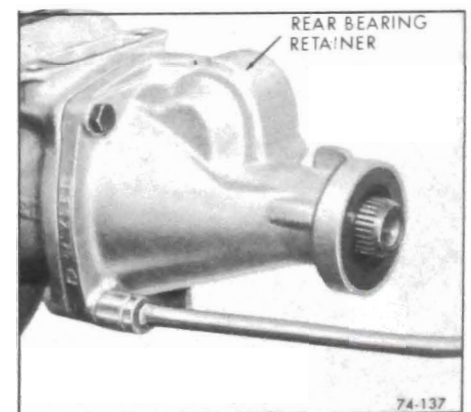

Figure 74-331
2. Install rear bearing retainer to case and install four (4) retaining bolts. Torque bolts to 25-35 lb.ft. See Figure 74-331.